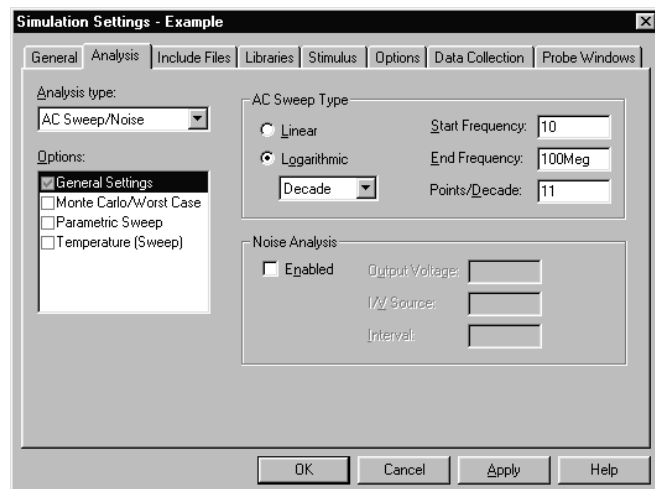

Figure 19 AC sweep and noise analysis simulation settings.
- 4 From the Analysis type list, select AC Sweep/Noise and enter the settings shown in Figure 19.